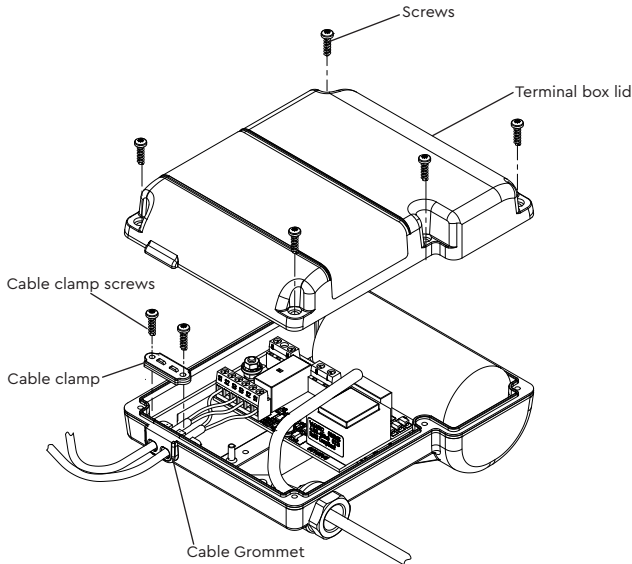

Fig. 18
- Remove four (or five) screws and carefully remove terminal box lid (Fig. 18).
- **IMPORTANT** – take note of the cable clamp orientation before removal, as reassembly in the original factory orientation is essential. Remove two screws and cable clamp, this allows any reed or pressure switch cables to be removed from the terminal box (Fig. 18).